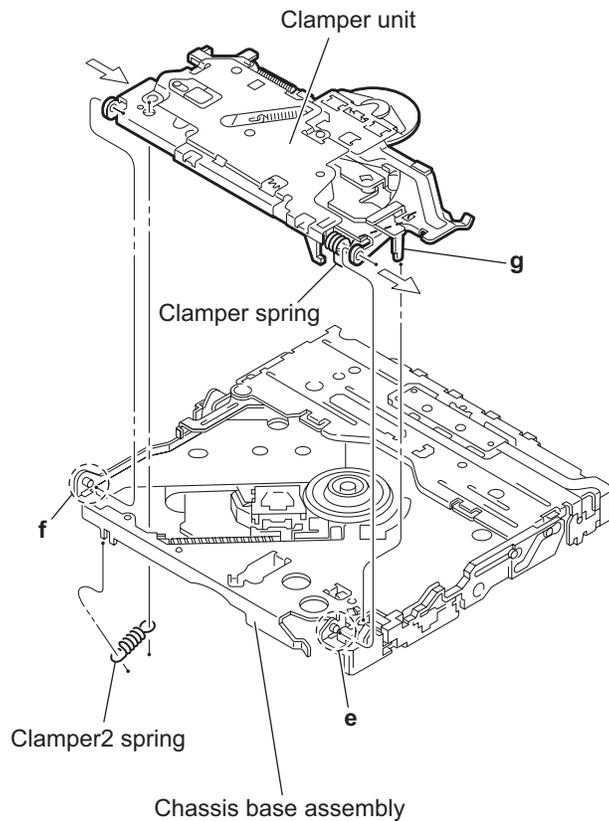

Fig.5
3.2.4 Removing the clamper unit (See Fig.5 to 7)
- Remove the clamper2 spring on the bottom of the mechanism section. (See Figs.5.and 6.)
3.2.5 Reattaching the clamper unit (See Fig.5 to 9)
- Move the clamper unit to set the side joints **e** and **f** to each boss of the chassis base assembly. Make sure that part **g** is inserted to the notch of the chassis base assembly. (See Figs.5 and 9.)
- Attach the clamper2 spring to the chassis base assembly. (See Figs.5 and 6.)